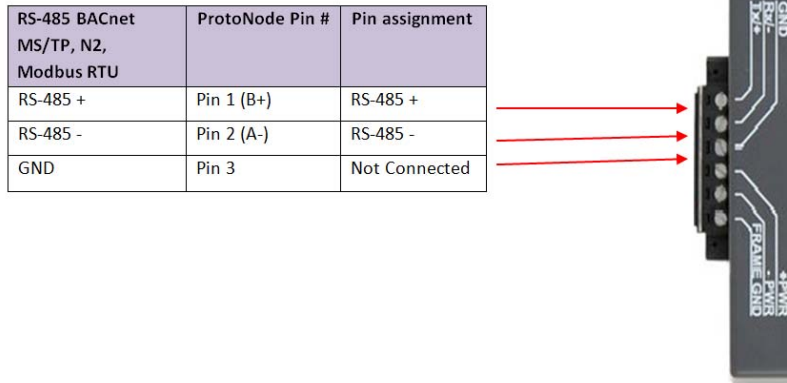

Figure 1: RS-485 BMS connections to the ProtoNode
- Connect the BMS RS-485 field protocol to the ProtoNode 6 Pin connector. See Figure 1